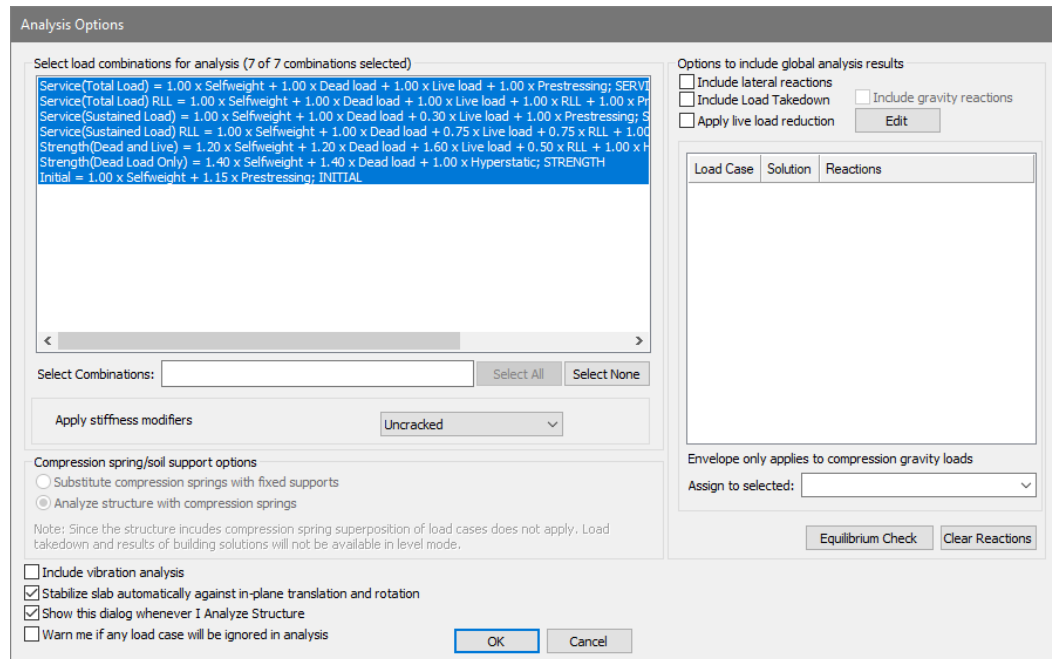

Figure 9-102
- In the Analysis Options window select all load combinations as well as the options as shown in **FIGURE 9-102**.